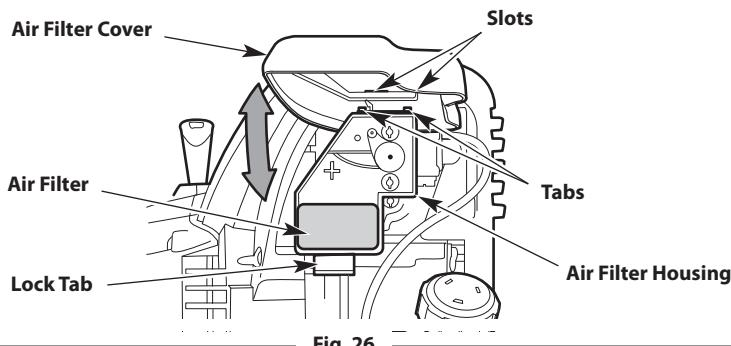

Fig. 26
1. Open the air filter cover: press in the lock tab and swing the air filter cover up (Fig. 26).
2. Remove the air filter from the air filter housing (Fig. 26).
6. Reinstall the air filter in the air filter housing (Fig. 26).
7. Close the air filter cover: insert the tabs on the air filter housing into the slots on the air filter cover. Swing the air filter cover down and press it closed until the lock tab snaps into place (Fig. 26).